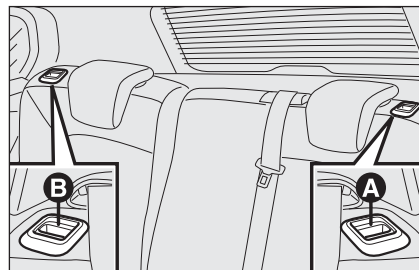

fig. 82
- ☐ lift handle **A** or **B-fig. 82** to release respectively the left or right part of the backrest and guide the backrest onto the cushion.
- ☐ lift handles **A** and **B-fig. 82** to release the backrests and guide them onto the cushion.